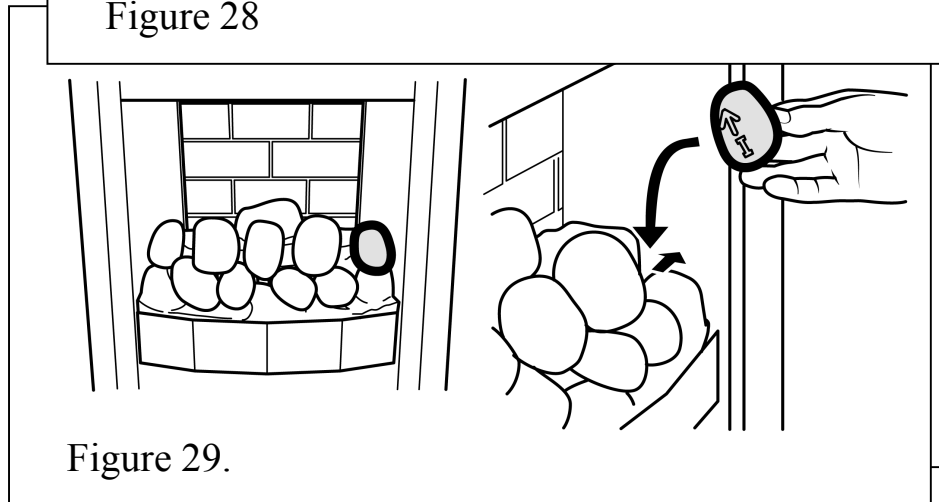

Figure 29.
**11.** Hold pebble 'I' upright with the arrow pointing to the top. Place pebble 'I' between the front and rear base pebbles. It should rest against the side of the firebox (See figure 29).